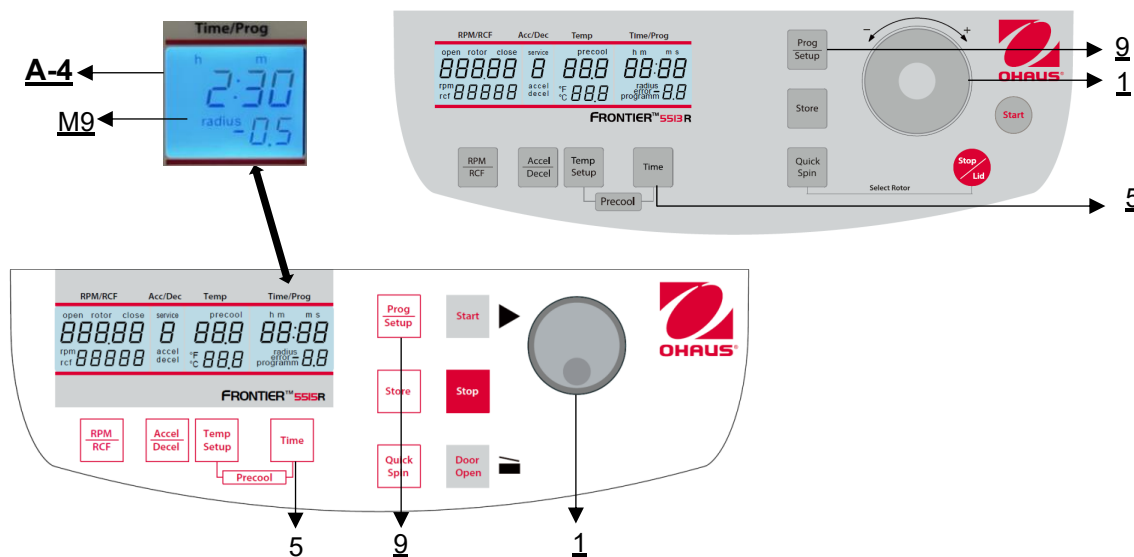

Figure 17
First, close the centrifuge lid, then press the key **"Time"** (5) and the key **"Prog/Setup"** (9) at the same time and hold them (see **Figure 17**).